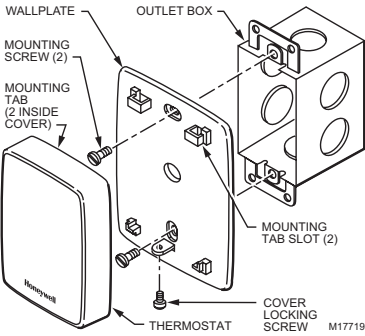

Fig. 2. Mounting the T7047.
5. Fasten the T7047 on the wall or outlet box with screws through the thermostat mounting holes. See Fig. 2.